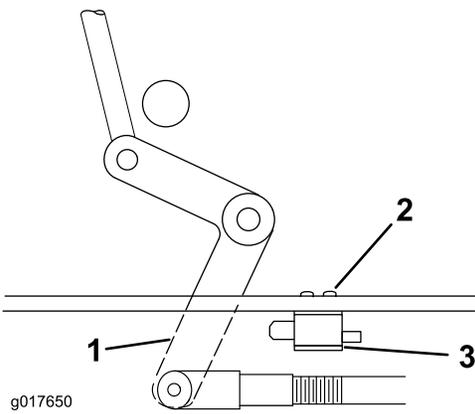

Figure 52
4. If needed, adjust the blade safety switch by loosening the bolts holding the switch bracket (Figure 52).
5. Move the mounting bracket until the bellcrank depresses the plunger by a 6 mm (1/4 inch); refer to (Figure 52).